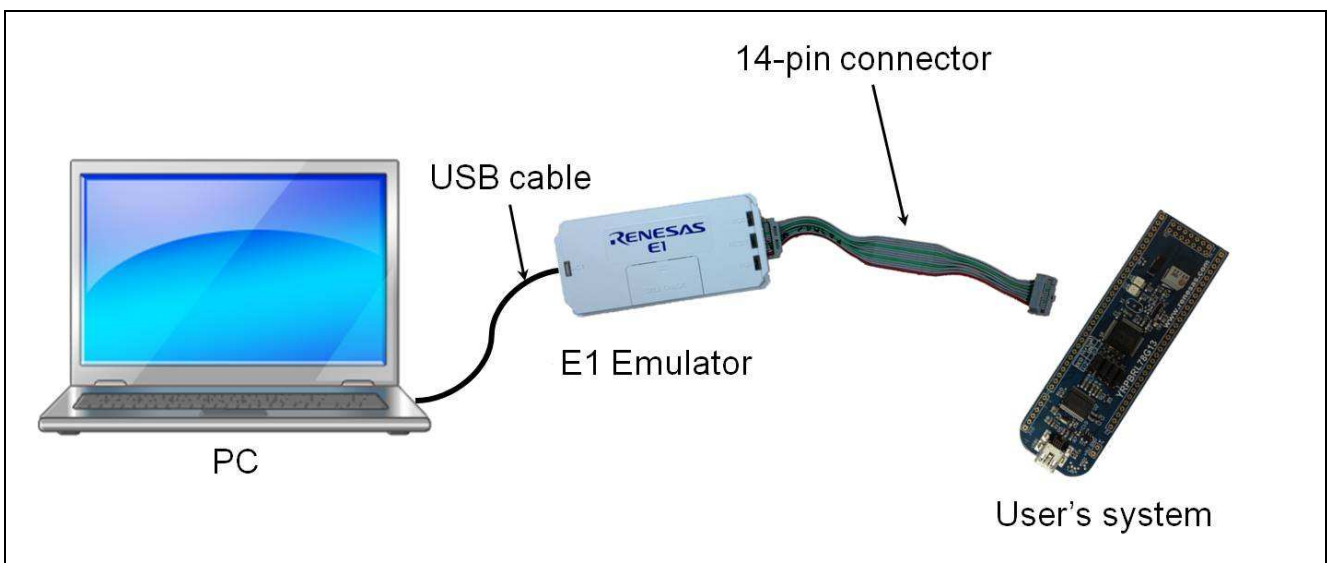

Figure 2 System configuration
- The RL78/G13 supports on-chip debug. To start the development, the E1 on-chip debugging emulator is used as the debug tool. The system configuration about PC, E1 emulator and user’s system is shown in Figure 2.